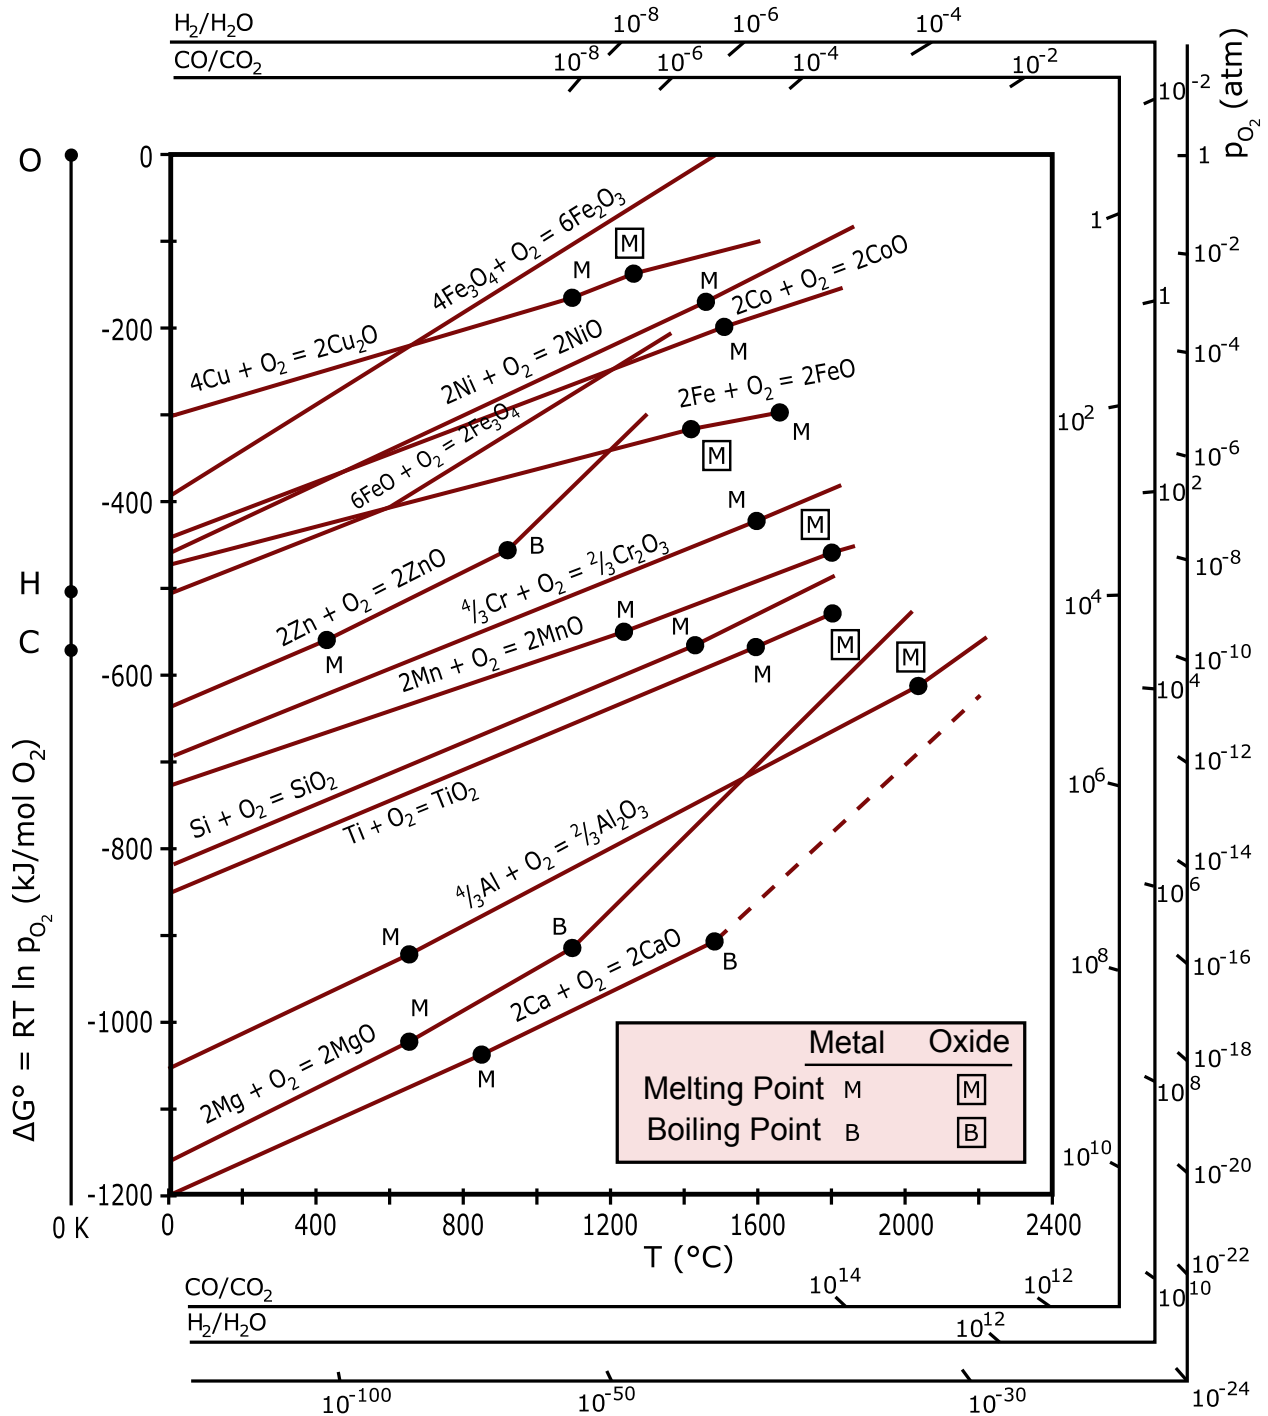

Figure 1.1: Ellingham diagram.
- 1) Use the Ellingham Diagram (reproduced here as Figure 1.1) to answer the following.